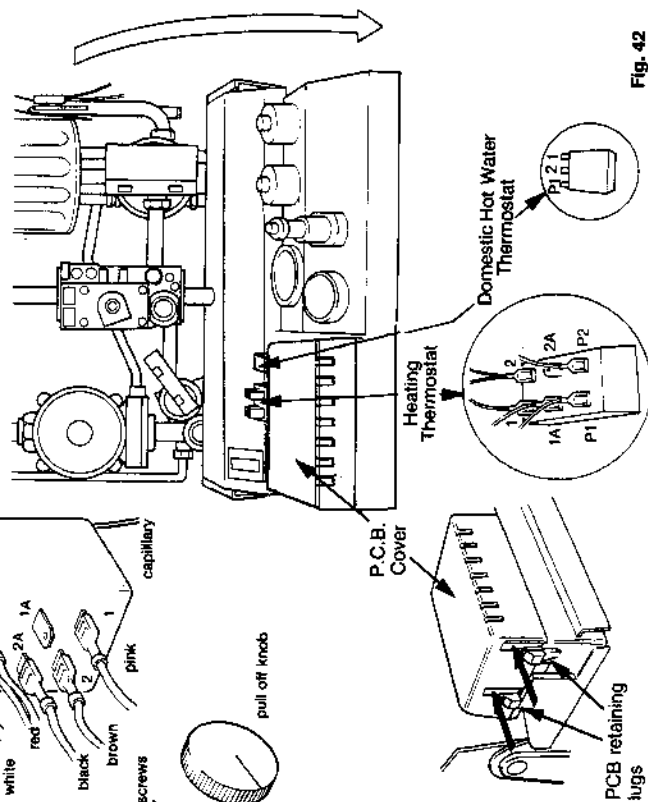

Fig. 42
Refer to figs 42 & 43
8.22.24 Refer to figs 42 & 43 to ensure correct location of thermostat and push-on wiring tabs.
Refer to figs. 42 & 43
8.22.32 Refer to fig. 42 to ensure correct location of thermostat and push on wiring tabs.
Refer to fig. 42
8.22.39 Press in the sides of the printed circuit board cover (fig. 42) to release retaining clips and lift cover off.